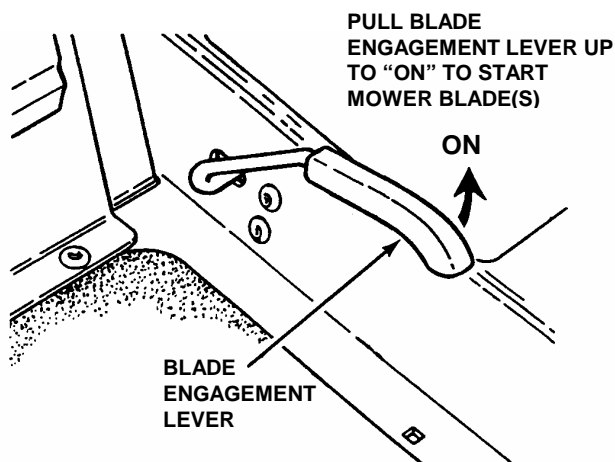

FIGURE 2.8
2. Raise blade engagement lever to "ON". See Figure 2.8.